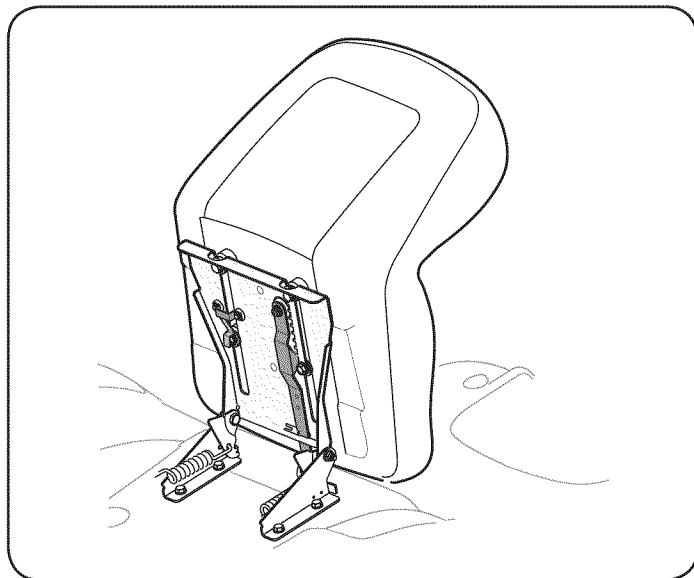

Figure 4
2. Slide seat in until front seat spacer engages the seat stop. See Fig. 4.